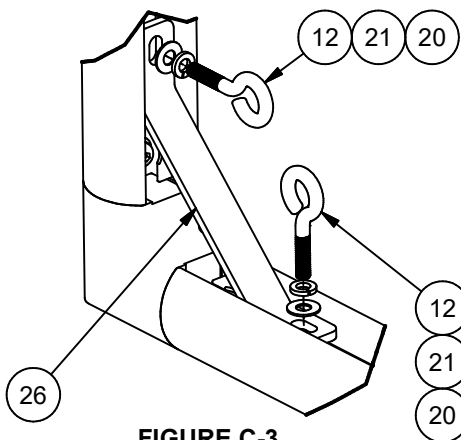

FIGURE C-3
2. Install the smaller corner braces using the four hooked eyebolts, lock washers, and standard washers as shown in Figure C-3. The eyebolts will thread through the frame pieces and into the corner fittings.